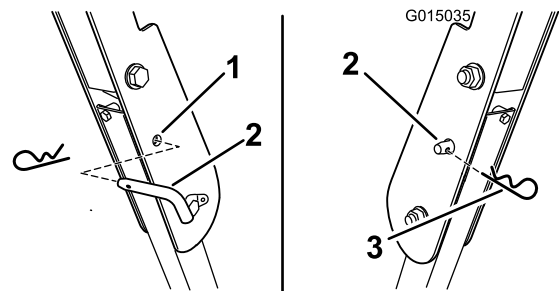

Figure 11
3. Install the locking pins. Secure the pins by installing the hair cotter pin (Figure 11).
4. To lower the roll bar, remove the hair cotter pin and remove the locking pins.(Figure 11).